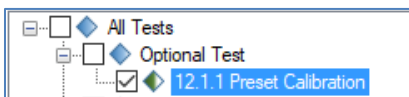

FIGURE 29. SELECT PRESET CALIBRATION
- **Tx Preset Calibration** tab: Select from the preset coefficient range of 0 to 15 to be applied in the Preset calibration (see Figure 29 above).